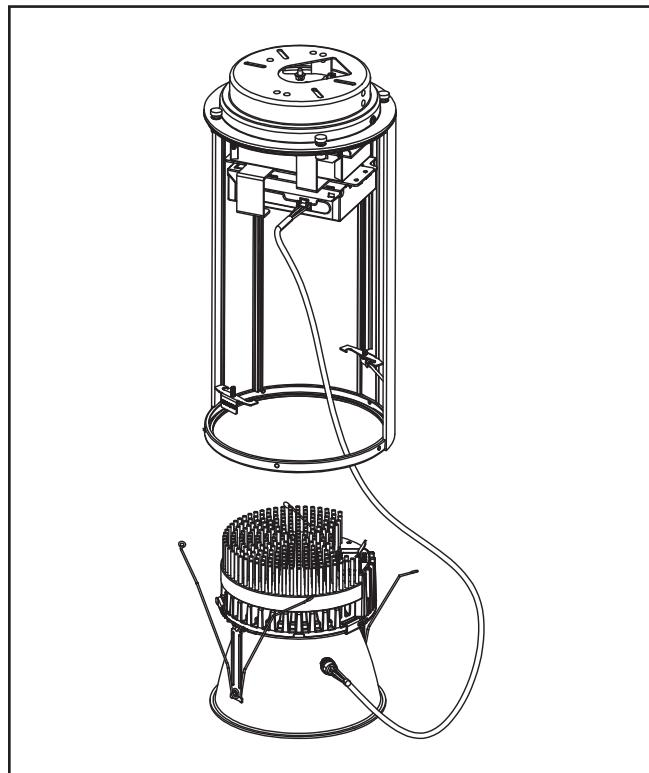

Figure 12
4. Connect the cable back to battery pack. (Figure 12)